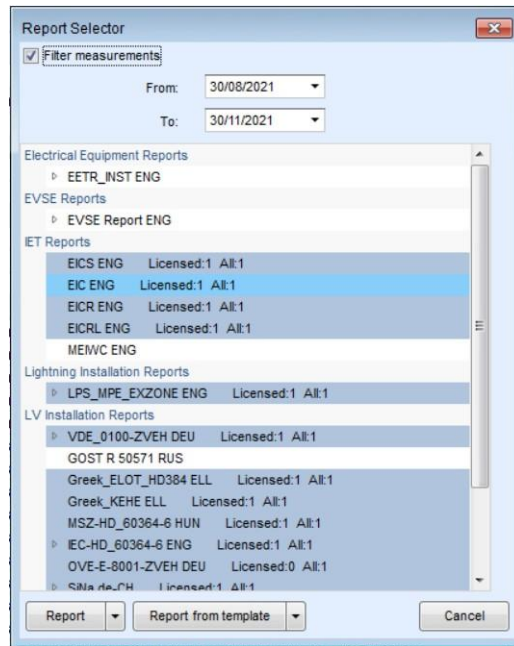

Figure 10.1: Report form selector box
- Click on the  icon within the Reports group of the Home menu tab to open a Report form selector dialog box, **Figure 10.1**.